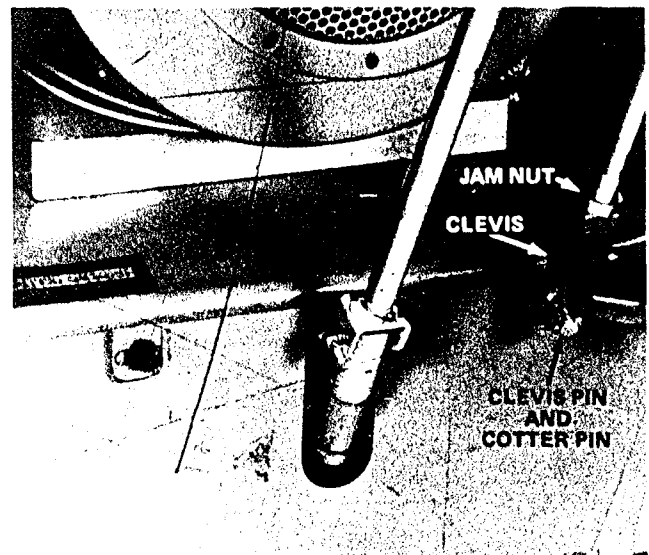

Figure 35
1. Loosen jam nut from clevis at bottom of auger drive control rod (Fig. 35). Next, remove cotter pin and clevis pin holding clevis to bent rod (Fig. 35).
2. Rotate clevis (Fig. 35) counterclockwise — out — to increase belt tension. By contrast, rotate clevis clockwise — in — to decrease belt tension.
3. Connect clevis to bent rod with clevis pin and cotter pin (Fig. 35). Next, tighten jam nut against top of clevis (Fig. 35).